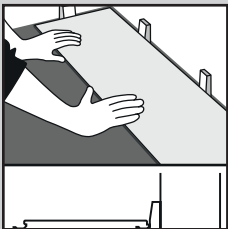

Fig. 1
1. Starting with a full plank/tile along the wall, calculate how many widths there are across the room. If this means there will be a row of narrow planks/tiles along the opposite wall, cut the first row accordingly. Install this product with the tongue side/cut edge facing the wall. Install 3/16" (5 mm) spacers between the plank/tile and wall (Fig. 1).